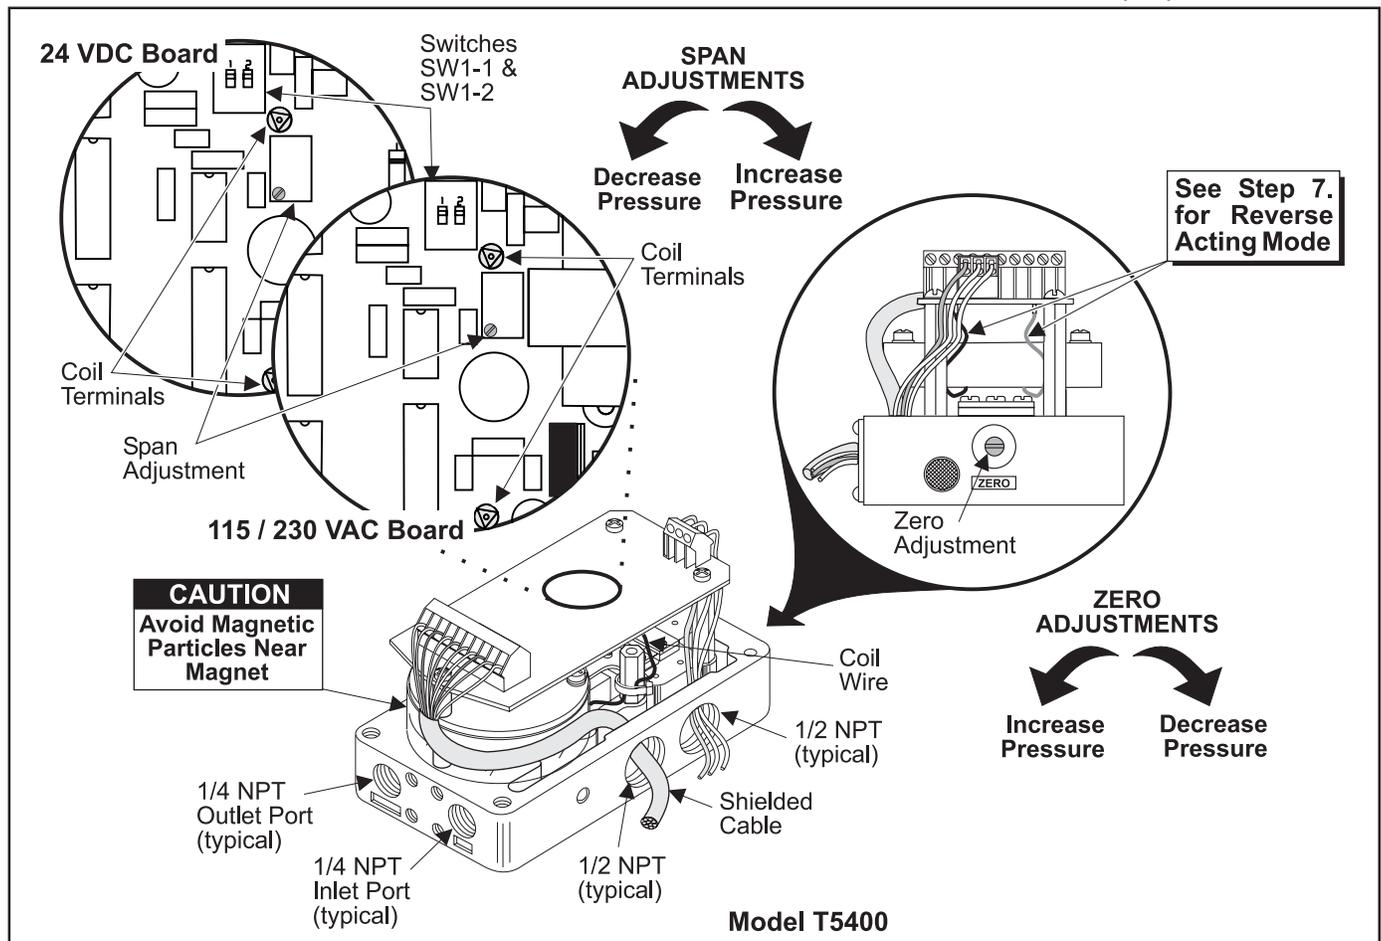

Figure 6. T5400 Calibration Configuration.
8. Reverse the coil wire connections on the underside of the PC Board as shown in Figure 6. below.